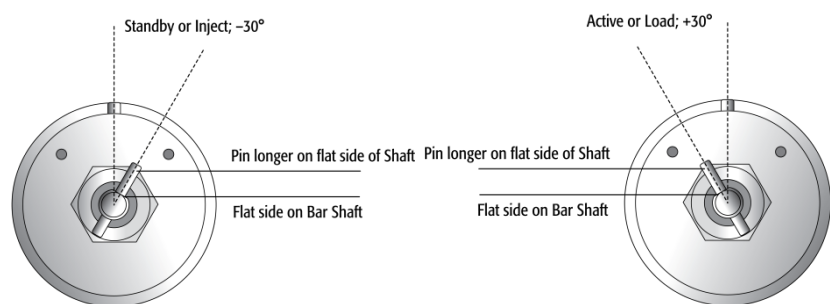

Figure 67. Valve Position 'Standby' and 'Active'. PD718-313
3. Check that the valve guide pin remains at its position; Observe the correct orientation of the guiding pin as shown below in Figure 67 and Figure 68 for the Valve Drive position;